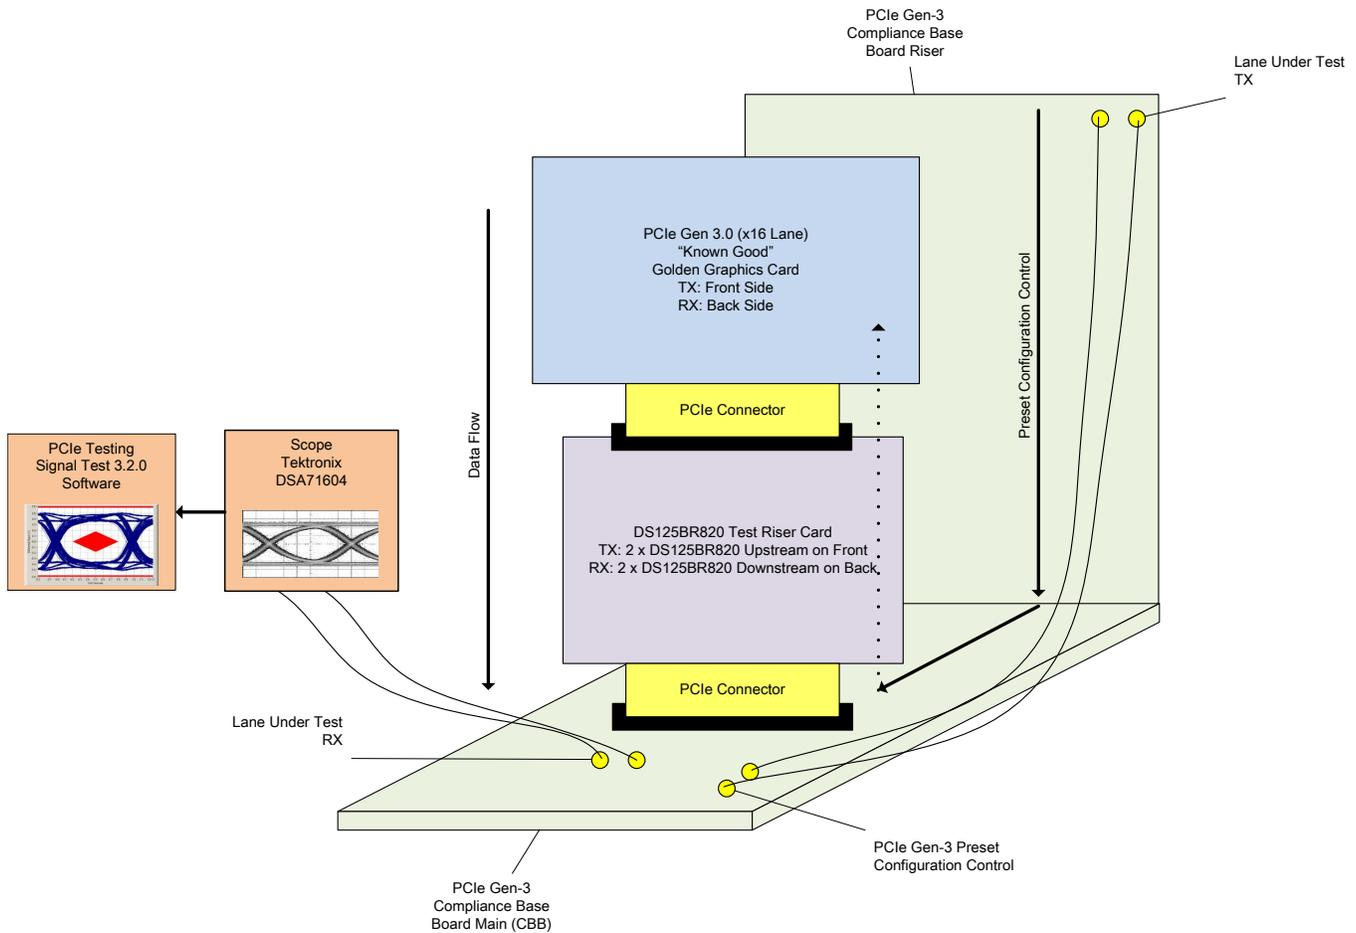

Figure 1. PCIe Compliance Test Setup With DS125BR820 Repeater
The testing carried out in this report is performed on the DS125BR820 low-power 12.5 Gbps 8-channel repeater which is designed to support PCIe Gen 3.0, 40GbE (40G-CR4/KR4/SR4/LR4), and other applications up to 12.5 Gbps. The linear nature of the DS125BR820's equalization allows the root complex (RC) and end point (EP) to freely negotiate transmit equalizer coefficients during link training. In addition, low additive jitter and transparency of transmit FIR wave shape allows the DS125BR820 to support PCIe Gen 3.0 systems. The test results presented in this report are representative of all TI's advanced linear repeaters supporting PCIe Gen 3.0, including DS80PCI810, DS125BR111, and DS125BR401A (A channels only). The PCIe compliance test setup used in this report is shown in Figure 1.